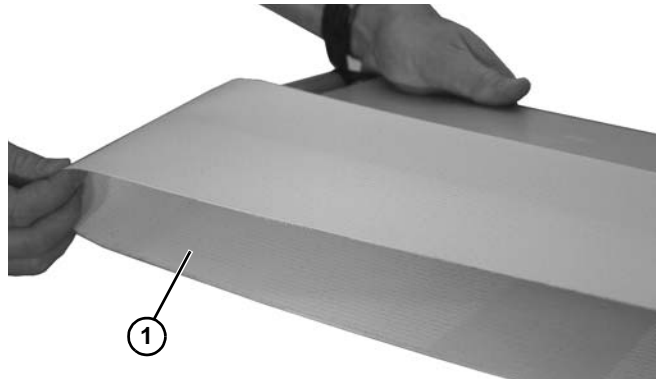

Figure 21
9. Remove belt (**Figure 21, item 1**) from conveyor.